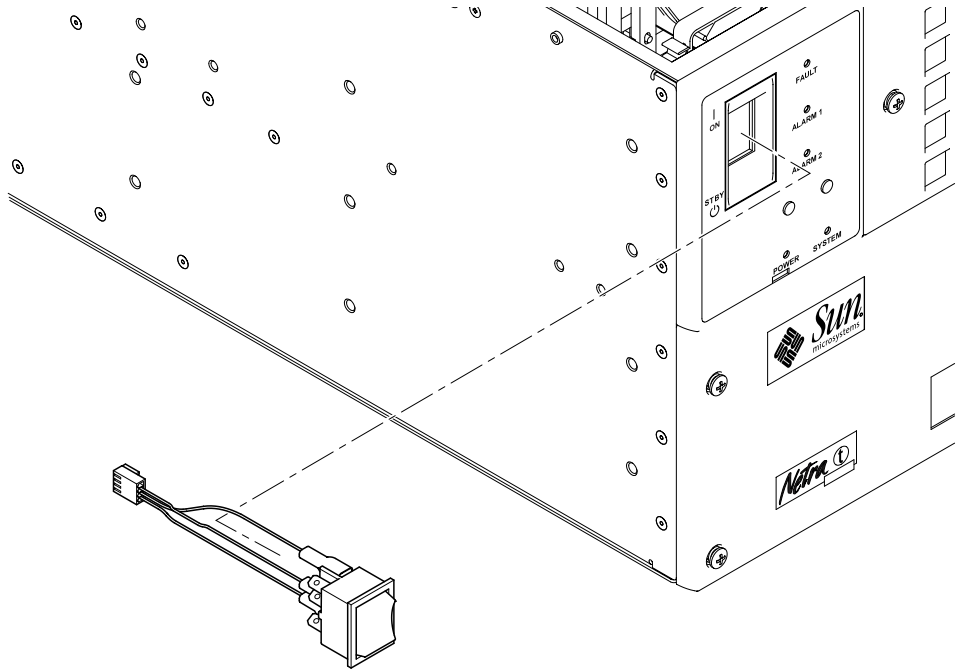

FIGURE 7-2 Removing and Fitting the System Switch Assembly
6. Remove the System switch assembly from the chassis front. See FIGURE 7-2 on page 7-7.